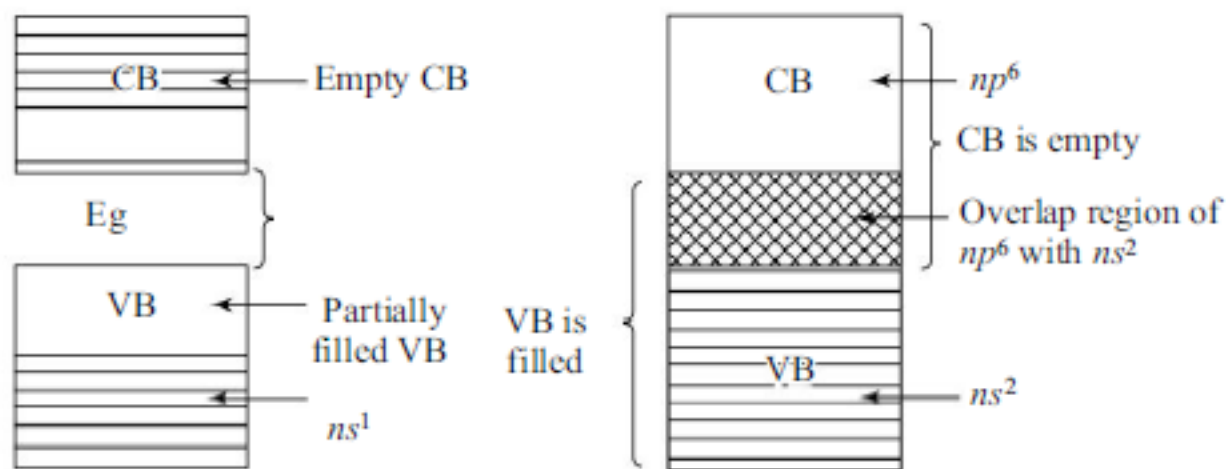

FIGURE 11.7 Energy bands levels for conductors.
'A material is a good conductor if it possesses either a partially filled valence band (VB) or an empty conduction band (CB) overlaps with filled VB' (Fig. 11.7).
In metals such as Na, Li, etc. the valence band (VB) is partially filled, with their valence electrons, ns^1 as shown in Fig. 11.7(a).
Be and Mg are metals. Both the solids have a completely filled VB with ns^2 valence electrons. The metallic properties of Be and Mg are due to the overlap of empty np^0 energy band (CB) with the completely filled VB (ns^2 electrons) as shown in Fig. 11.7(b).